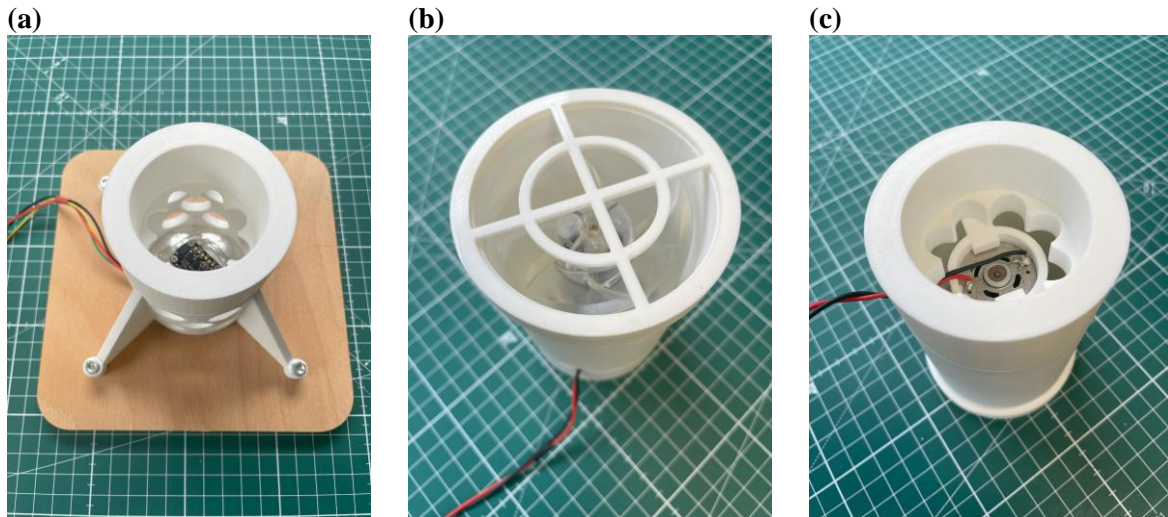

Fig. S3. Photos of (a) the complete base unit as well as (b) top and (c) bottom views of the fan unit.
- * Place the entire fan unit on top of the acrylic tube. This should be a comfortable fit so that it can be taken off and put back easily. Photos of the assembled base and fan units are shown in Fig. S3.